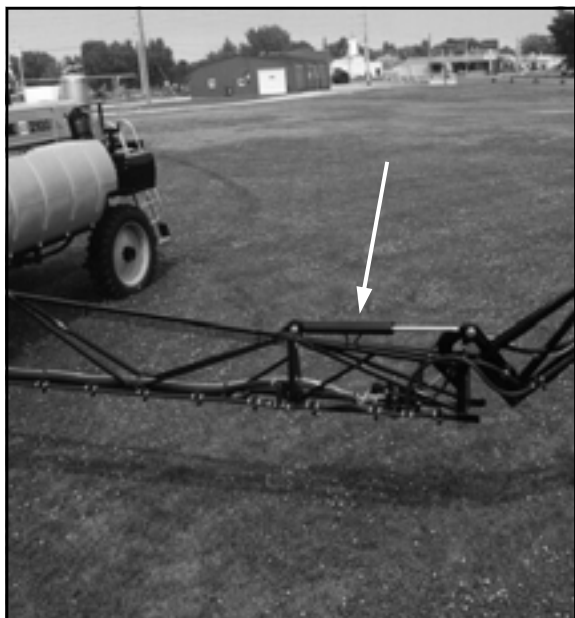

FIG 5.21
**VERTICAL EXTENSION FOLD** - To fold the boom extensions vertically in or out, machine must be in neutral position then depress the “IN” or “OUT” of the “EXTENSION” switch (fig. 5.22). This activates both extension cylinders connecting the inner boom section and the center boom section (fig. 5.21).